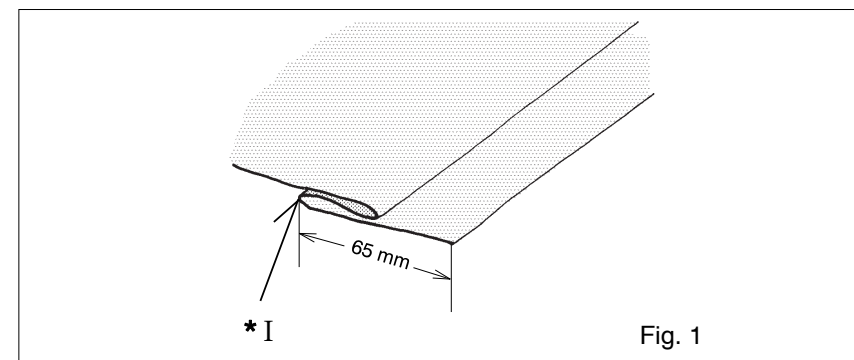

Fig. 1
1. Turn up the hem to the required depth and press. Fold the hem back against the $\$right\$\$ side of the garment, creating a $\$soft\$\$ fold on the $\$wrong\$\$ side of the fabric – See Fig. 1.